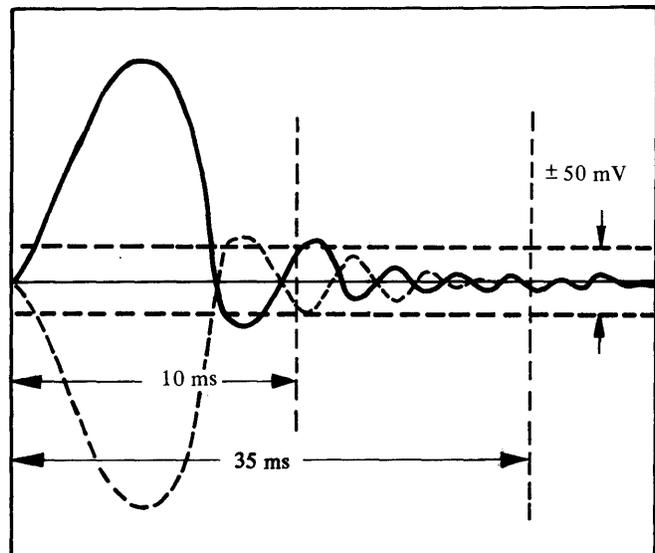

Figure 4-24. Servo Settle Time
17. Obtain the trace shown in figure 4-24. This signal is the output from the Detent Amplifier Circuits. As the positioner locates itself over the desired track, an overshoot occurs as the servo goes into DETENT. This overshoot is then compensated for by amplified feedback from the detent circuits, and the carriage therefore oscillates slightly for a period of time. It is important that this 'settle time' should be minimised, as excessive carriage oscillation can cause errors.